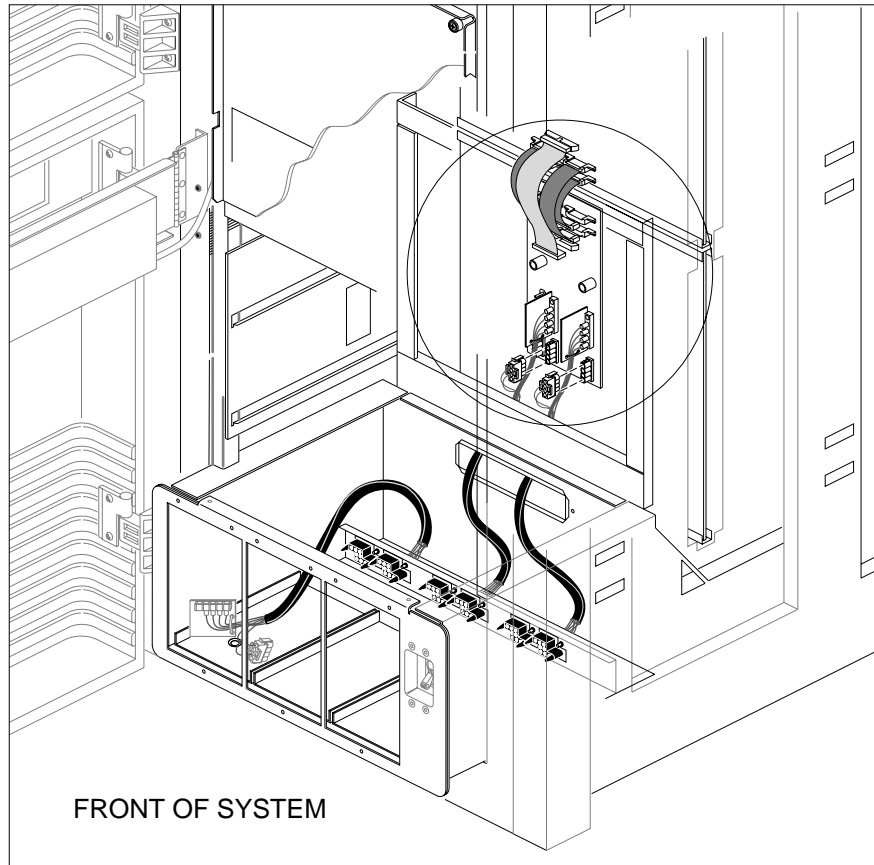

Figure 3-47 Midplane Jumper Board Connections
13. Withdraw the power supply tray from the front of the system cabinet (see Figure 3-47).
14. Withdraw the midplane jumper board through the access port on the right side of the cabinet (see Figure 3-47).